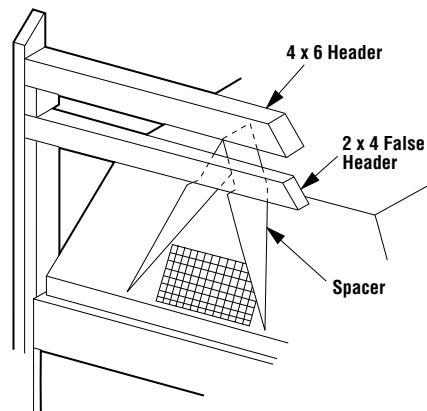

Figure 12
Step 3. Refer to fireplace drawings and specifications on pages 7 and 8 for framing dimensions and details. False header may be positioned directly on top of the fireplace spacers (see Figures 12, 13 and 14).
IMPORTANT: UNDER NO CIRCUMSTANCES CAN THE FIREPLACE TOP SPACERS (FIGURE 12) BE REMOVED OR MODIFIED, NOR MAY YOU NOTCH THE HEADER TO FIT AROUND OR BE INSTALLED LOWER THAN THE SPACERS. THE HEADER MAY BE IN DIRECT CONTACT WITH THE TOP SPACERS BUT MAY NOT BE SUPPORTED BY THEM.